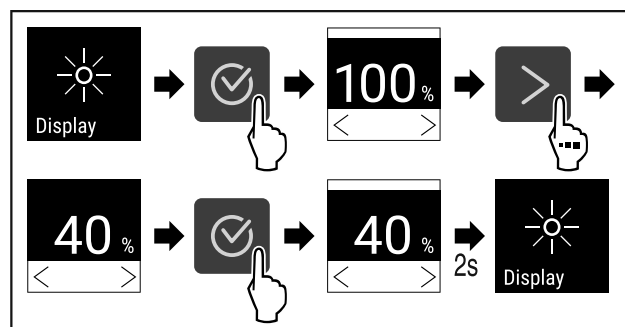

Fig. 71
- Complete the steps (see Fig. 71).